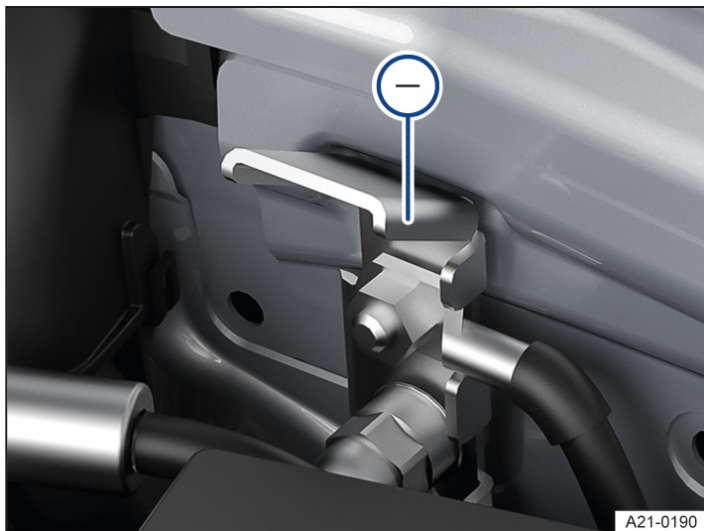

Fig. 1 In the engine compartment: jump-start connection point (earth).
- ⊖ The jump-start connection point (earth) is used for connecting the black jump lead → Fig. 1.